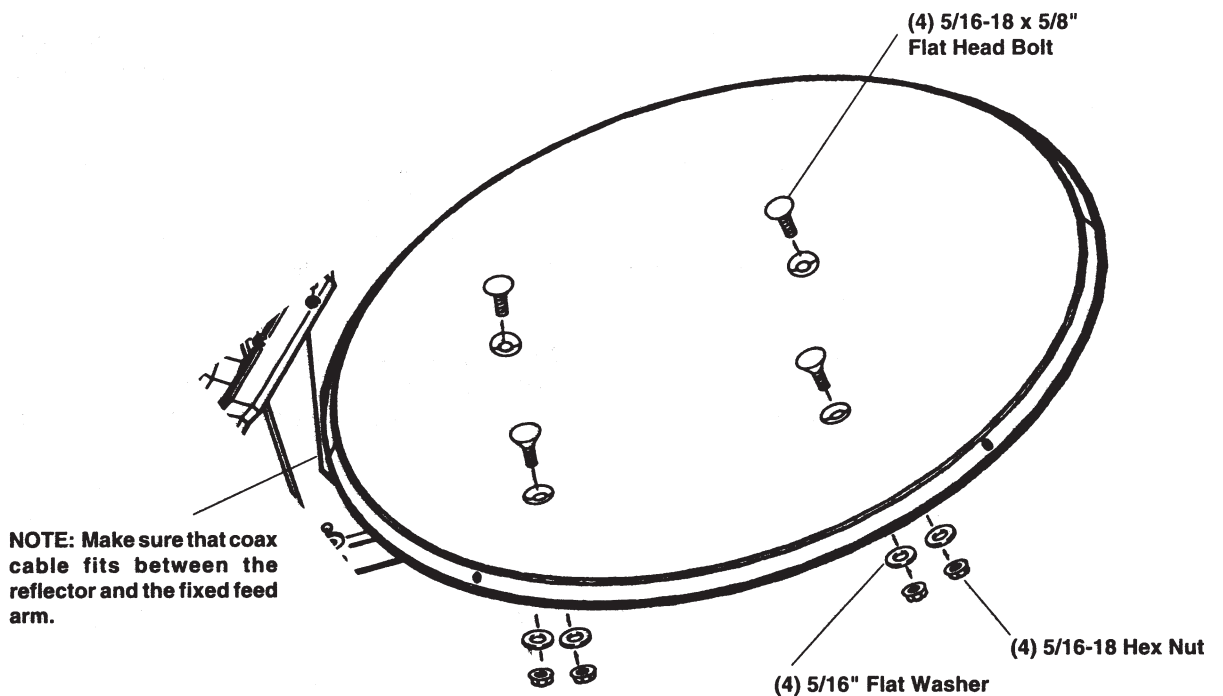

FIGURE 2
STEP 4: Attach reflector to backup assembly as shown in Figure 2.